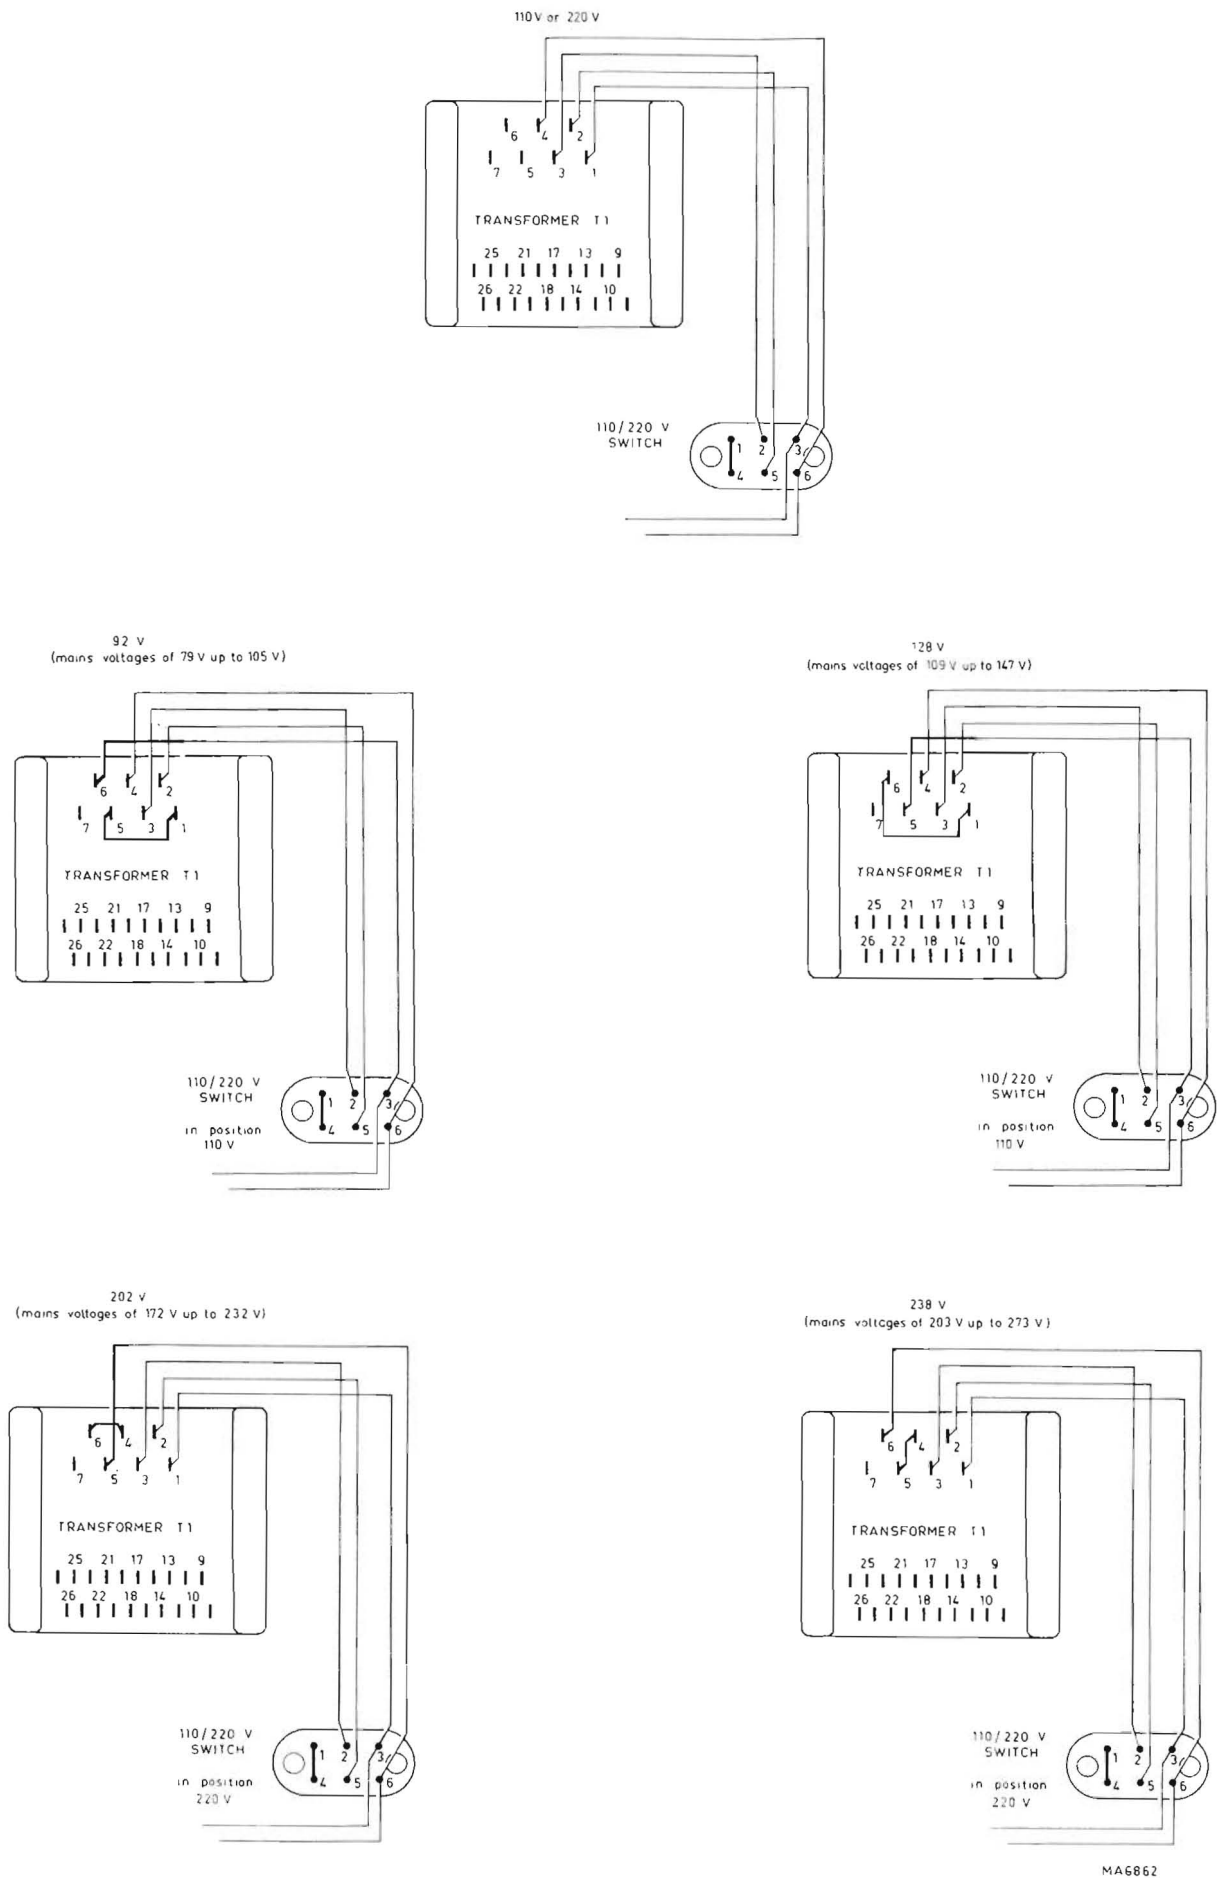

Fig. 3. Adaption of the mains transformer
- If necessary, connect the transformer windings as shown in fig. 3.